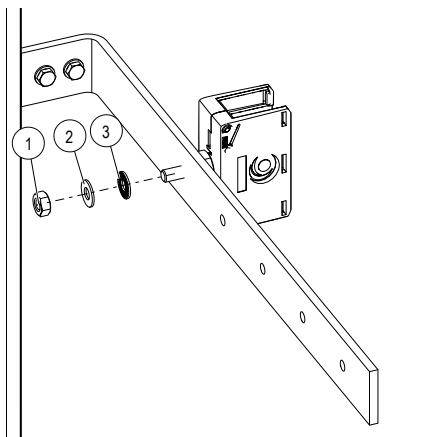
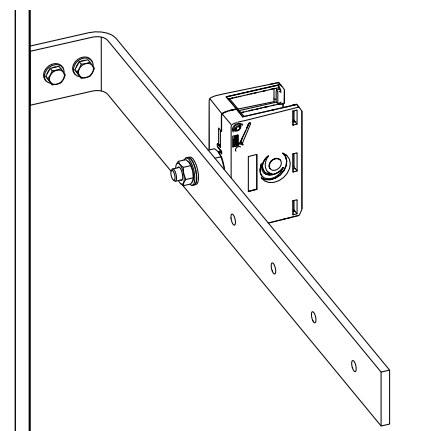

Fig. 12: Screw hanger clamp on.
Fig. 13: The hanger clamp is mounted.
- Guide the hanger clamp (Item 7) into the corresponding hole of the customer's supporting structure and tighten the screw connection (Item 1, Item 2 and Item 3 in Fig. 12 to Fig. 13) with the prescribed torque (SW 17, torque wrench: **14 Nm**). Use the open-end wrench SW 24 to counter-lock the spacer (Item 5). Ensure that the screw heads of the cylinder screws (Item 6) face outward, i.e., they are turned away from the customer's support structure.